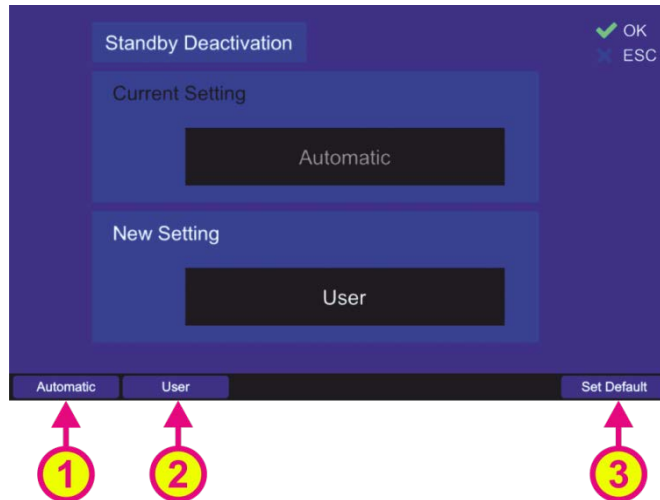

Fig. 96 Changing the standby deactivation setting
Following dialog opens (s. Fig. 96).
- Press the hotkey “Automatic” (s. Fig. 96, position 1) in order to enable the automatic standby mode deactivation.